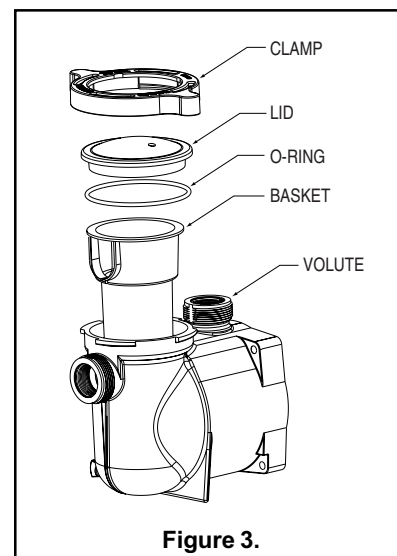

Figure 3.
9. Reinstall the lid by placing the clamp and the lid on the pot; see **Figure 3**.